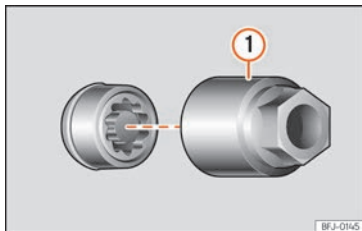

Fig. 34 Anti-theft wheel bolt with cap and adapter.
- Insert the special adapter »» Fig. 34 ① [vehicle tools »» page 40] onto the anti-theft wheel bolt and push it on as far as it will go.